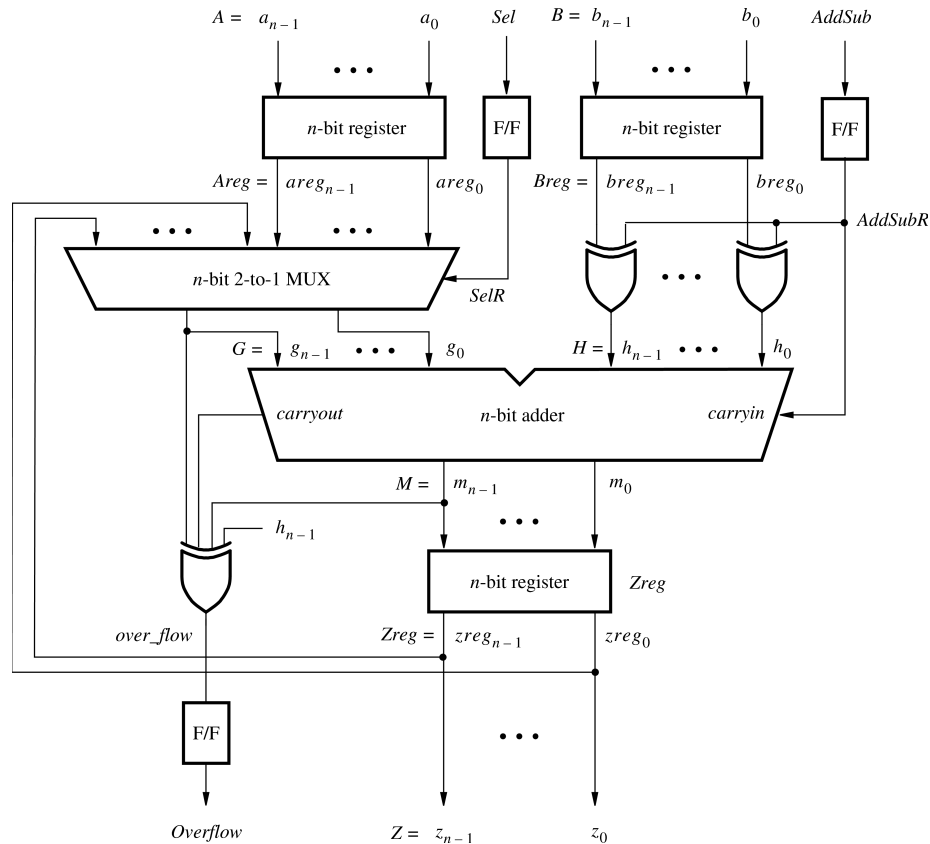
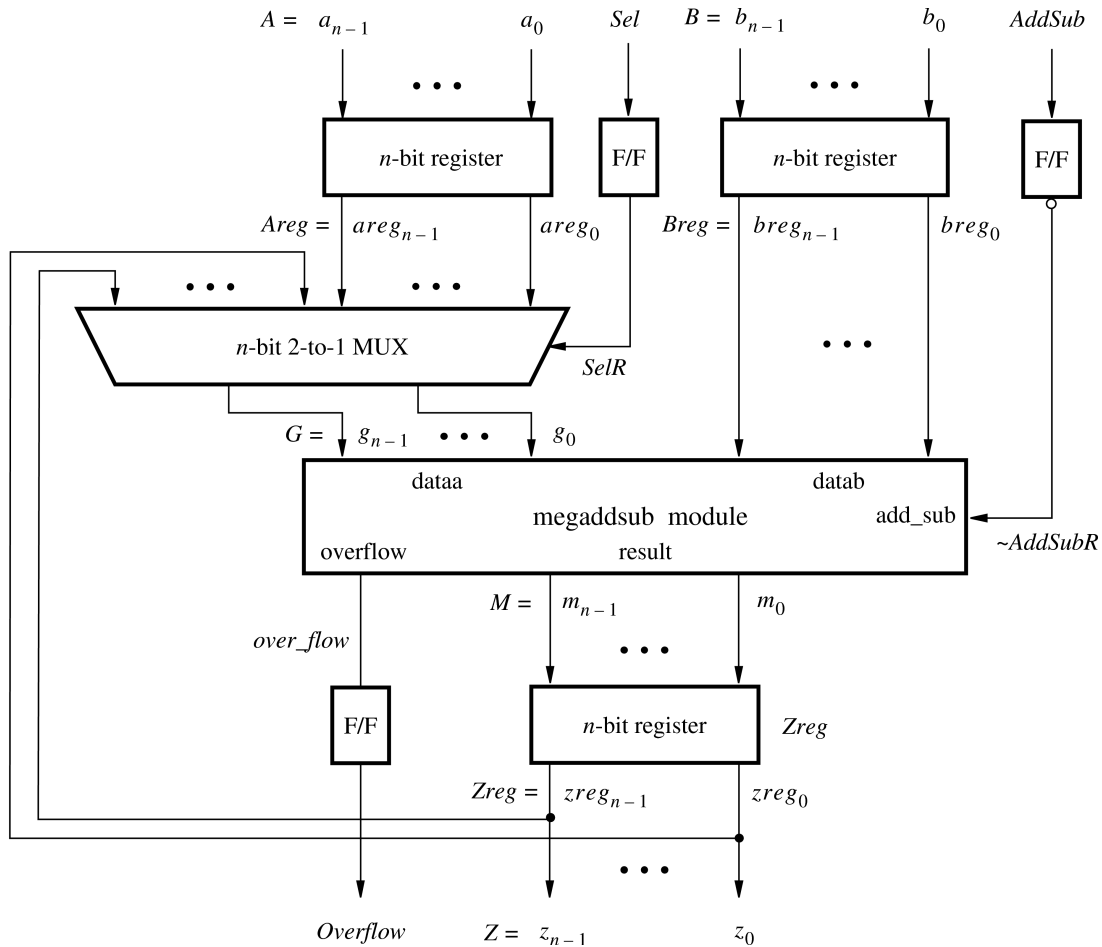
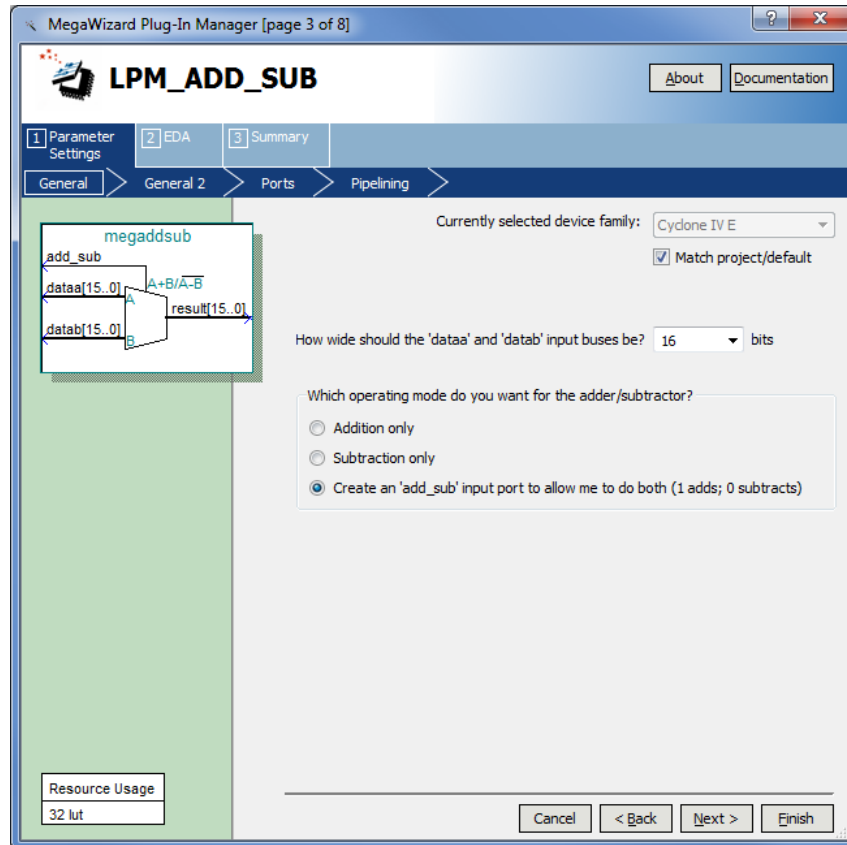

Figure 1. The adder/subtractor circuit.
Figure 3. The augmented adder/subtractor circuit.
Figure 6. Specify the size of data inputs.
As an example, we will use the adder/subtractor circuit shown in Figure 1. It can add, subtract, and accumulate  $n$ -bit numbers using the 2's complement number representation. The two primary inputs are numbers  $A = a_{n-1}a_{n-2} \cdots a_0$  and  $B = b_{n-1}b_{n-2} \cdots b_0$ , and the primary output is  $Z = z_{n-1}z_{n-2} \cdots z_0$ . Another input is the *AddSub* control signal which causes  $Z = A + B$  to be performed when *AddSub* = 0 and  $Z = A - B$  when *AddSub* = 1. A second control input, *Sel*, is used to select the accumulator mode of operation. If *Sel* = 0, the operation  $Z = A \pm B$  is performed, but if *Sel* = 1, then  $B$  is added to or subtracted from the current value of  $Z$ . If the addition or subtraction operations result in arithmetic overflow, an output signal, *Overflow*, is asserted.
We will use the *lpm\_add\_sub* module to simplify our adder/subtractor circuit defined in Figures 1 and 2. The augmented circuit is given in Figure 3. The *lpm\_add\_sub* module, instantiated under the name *megaddsub*, replaces the adder circuit as well as the XOR gates that provide the input *H* to the adder. Since arithmetic overflow is one of
- In the box in Figure 6 specify that the width of the data inputs is 16 bits. Also, specify the operating mode in which one of the ports allows performing both addition and subtraction of the input operand, under the control of the *add\_sub* input. A symbol for the resulting LPM is shown in the top left corner. Note that if *add\_sub* = 1 then *result* = *A* + *B*; otherwise, *result* = *A* – *B*. This interpretation of the control input and the operation performed is different from our original design in Figures 1 and 2, which we have to account for in the modified design. Observe that we have included this change in the circuit in Figure 3. Click Next.
- The *adderk* instance of the adder circuit is replaced by *megaddsub*. Note that the *dataa* and *datab* inputs shown in Figure 6 are driven by the *G* and *Breg* vectors, respectively. Also, the inverted version of the *AddSubR* signal is specified to conform with the usage of this control signal in the LPM.